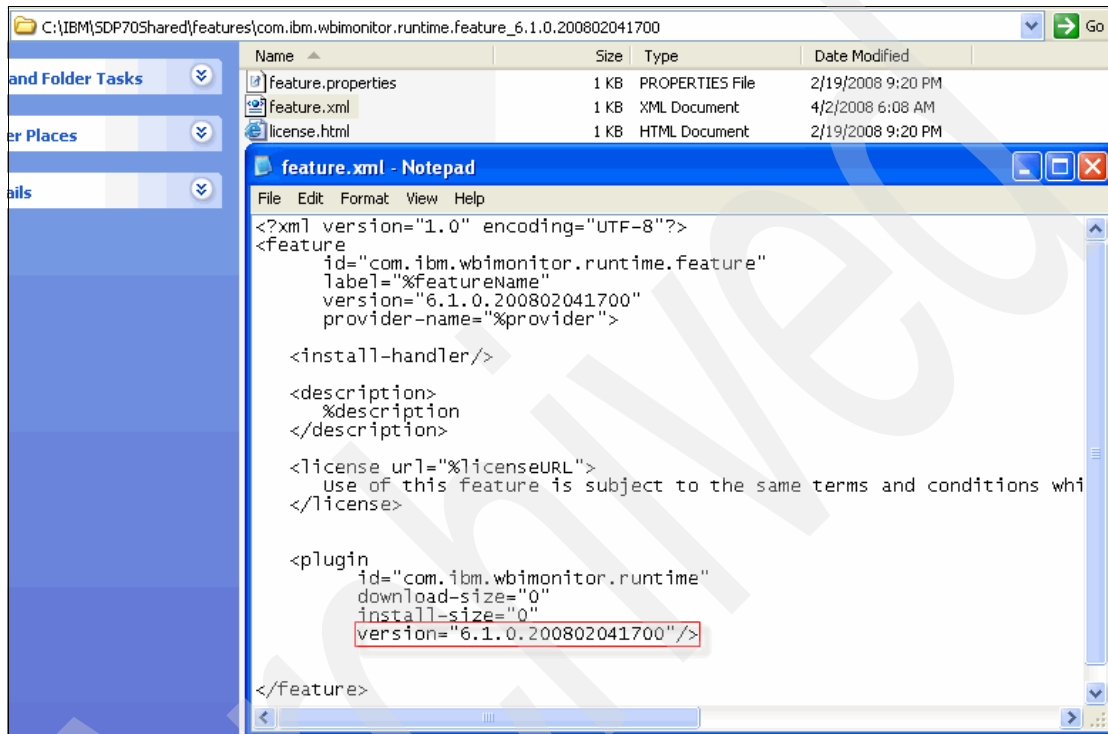

Figure 8-32 Modifying the plugin version
- Before we install the FDL to monitor model utility, modify feature.xml in <WebSphere Integration Developer installation root directory>\SDP70Shared\features\com.ibm.wbimonitor.runtime.feature_6.1.0.200802041700 to replace the plug-in version with 6.1.0.200802041700 (Figure 8-32). Doing this helps to overcome a known issue in the WebSphere Business Monitor 6.1.1 development toolkit.